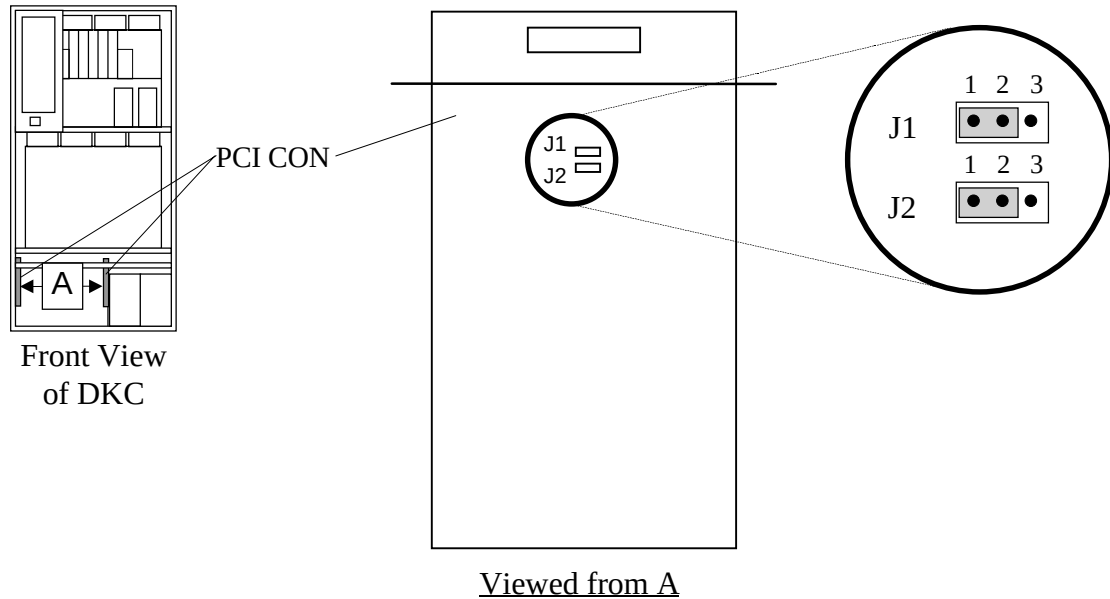

Fig. 3.13-4 Setting of Jumper Plugs
- b. Set the jumper plugs (JP1 and JP2) of the PCI CON referring to Fig. 3.13-4 and Table 3.13-2.